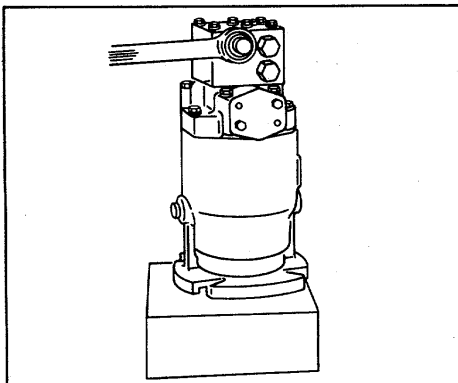

Figure 11.
1. Apply a wrench on hex portion of valve and unscrew from manifold block (refer to Fig. 11).